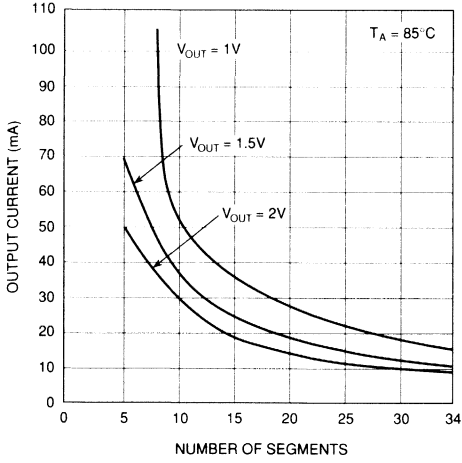

Figure 7.
**Note 3:** See Figures 7, 8 and 9 for Recommended Operating Conditions and limits. Absolute maximum for each output should be limited to 40 mA.